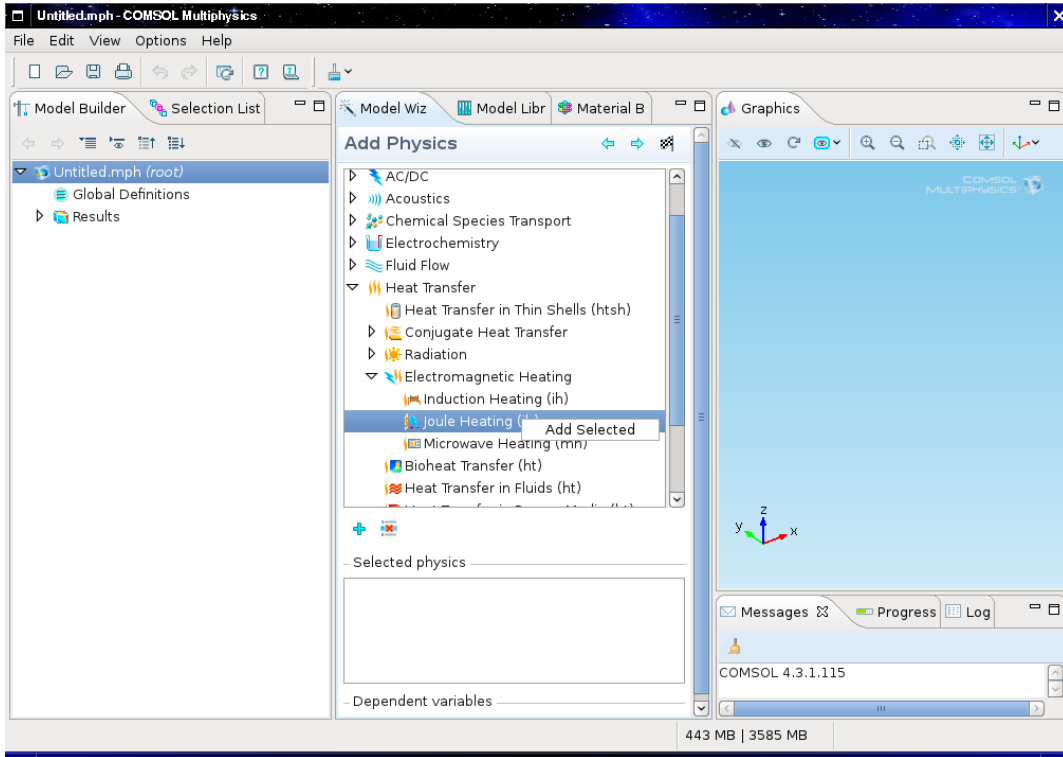

Figure 4: Adding the physics interface.
- 3 On the *Add Physics* panel select **Heat Transfer** → **Electromagnetic Heating** → **Joule Heating: right button** → **Add Selected**. Then click the *Next* button (Fig. 4).